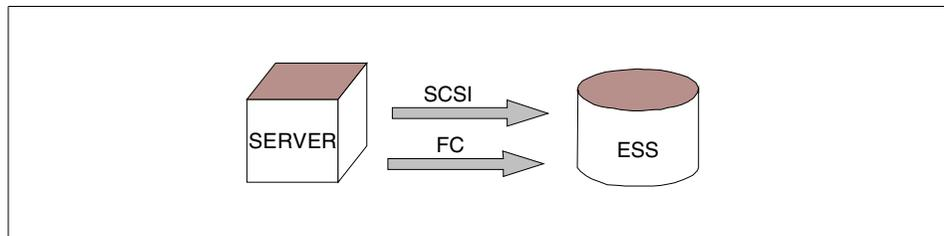

Figure 47. Multipath storage to server connection, SCSI and FC
3. Attach these disks to the WWPN of one of the Fibre Channel HBAs; see Figure 47.